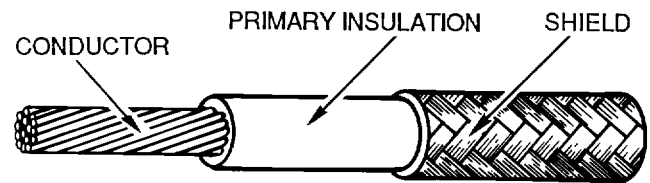

Figure 2. Braided Shield
22. **SHIELD CONSTRUCTION.** Braided shields are formed in the same manner as textile braid with copper being substituted for yarn. Braid shield is widely used as it retains its structural integrity (Figure 2).